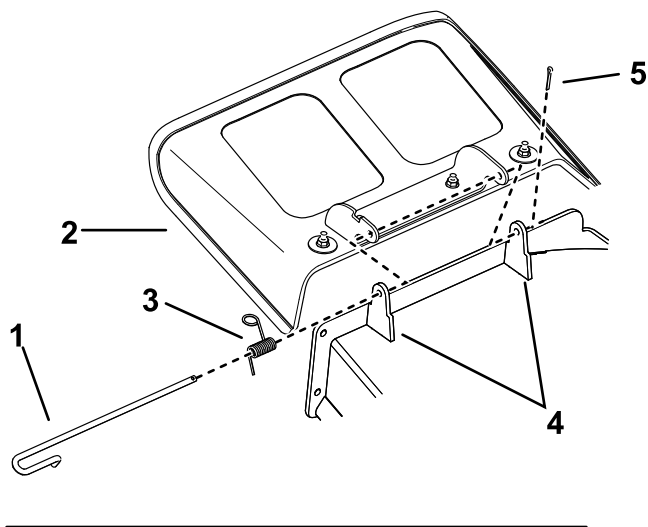

Figure 77
1. Disengage the spring from the notch in the deflector bracket and slide the rod out of the welded deck brackets, spring, and discharge deflector (Figure 77).